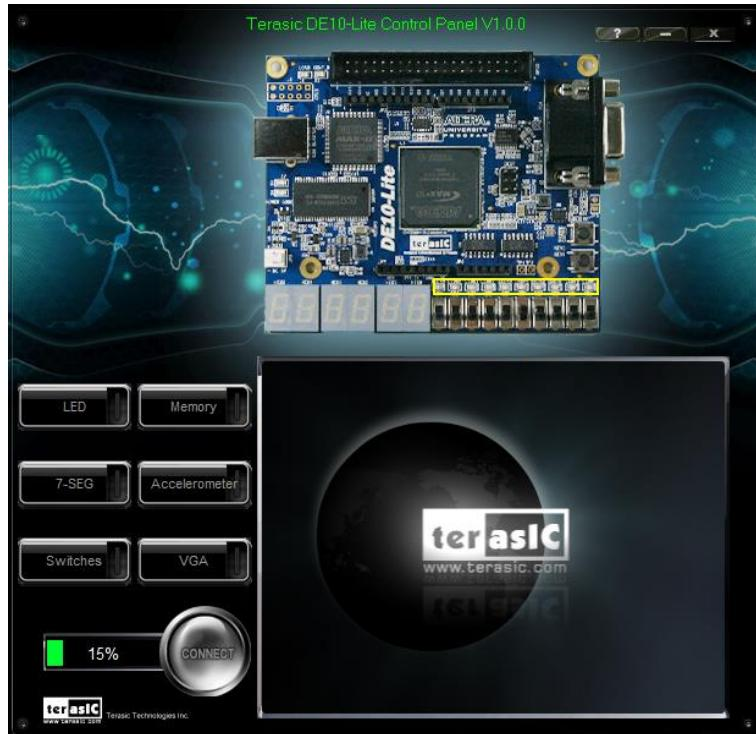

Figure 2-1 The DE10-Lite Control Panel
3. Start the executable *DE10_Lite_ControlPanel.exe* on the host computer. The Control Panel user interface shown in **Figure 2-1** will appear.